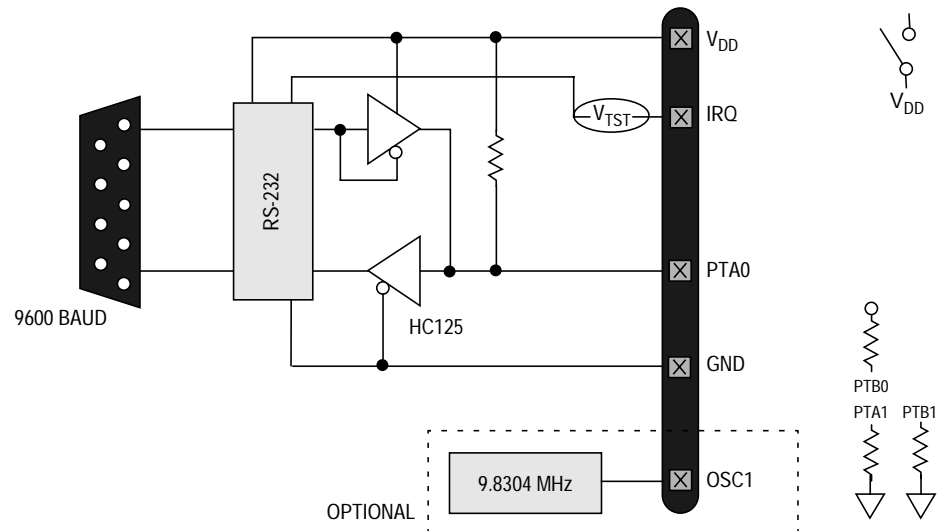
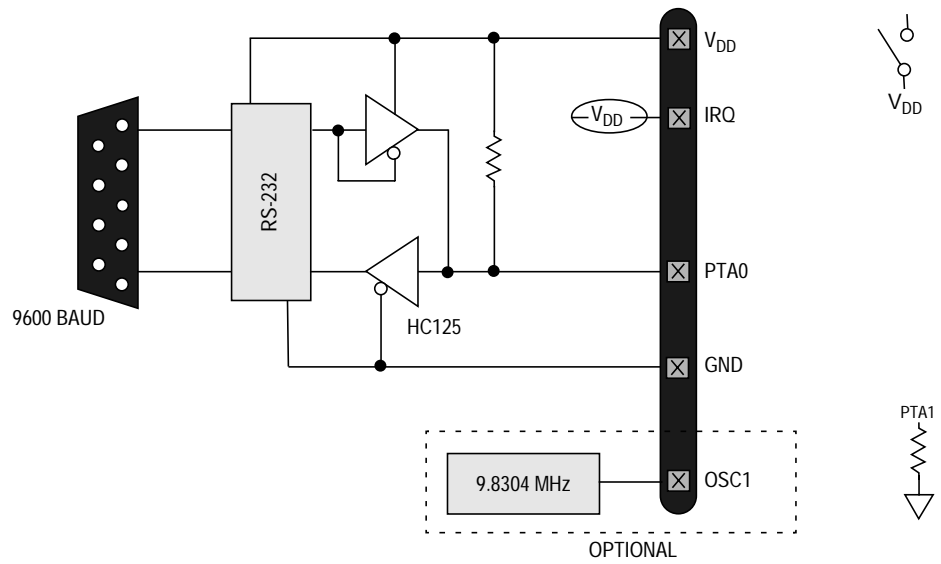

Figure 4. MC68HC908GR8 Standard Monitor Mode (9.8304 MHz)
Figure 5. MC68HC908GR8 Forced Monitor Mode (9.8304 MHz)
- c. RS-232 communications circuit. Also needed is a 5-volt power source to power this circuit. (see Figure 4, Figure 5, and Figure 6)
2. Connections (see Figure 4):
- a. Blank part with oscillator value from Table 2. See Figure 5.